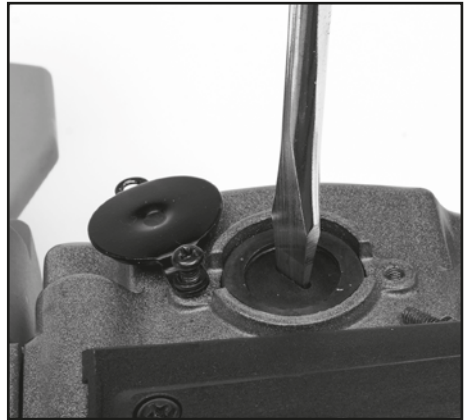

FIG.9
Remove the cover (2) completely, then the plastic cover underneath with a flat headed screwdriver (not supplied), Fig.9.